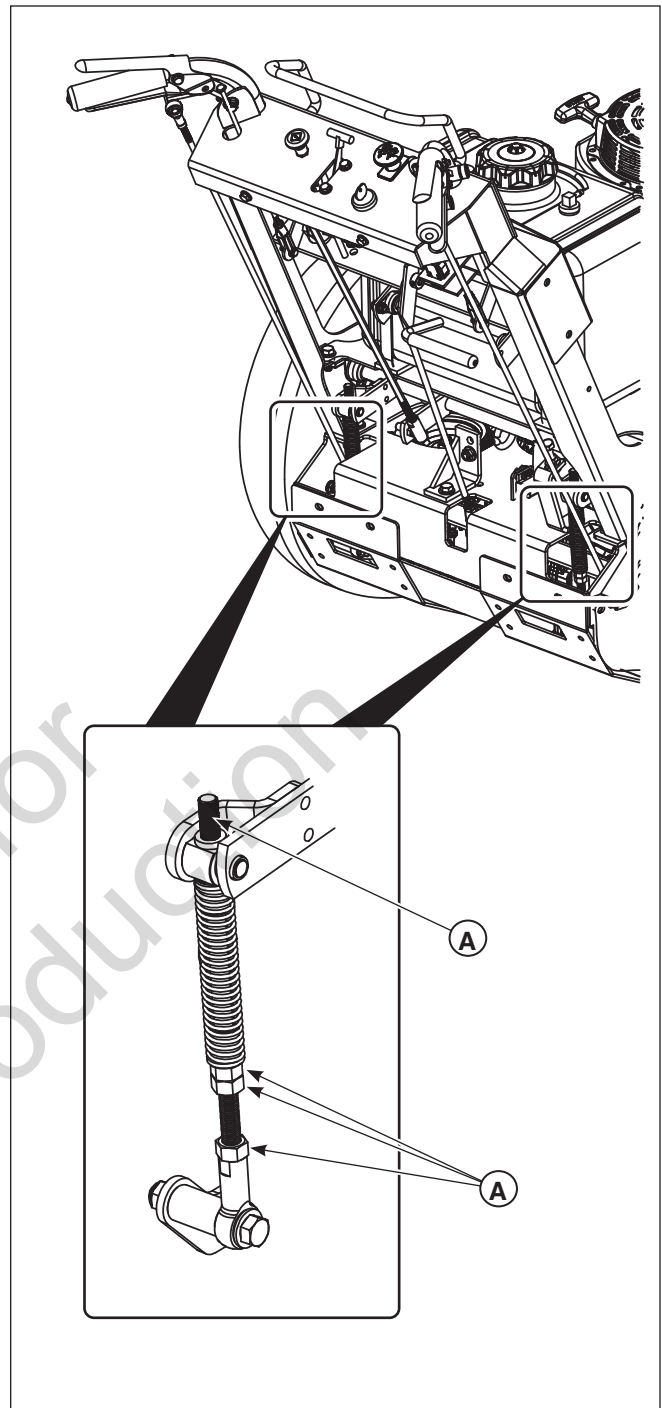

Figure 26. Adjusting the Speed of the Faster Wheel
There are three (3) nuts (**A, Figure 26**) on the linkage rod (**B**). The first two are to be used together to turn the rod and the third is used to lock the rod in place.